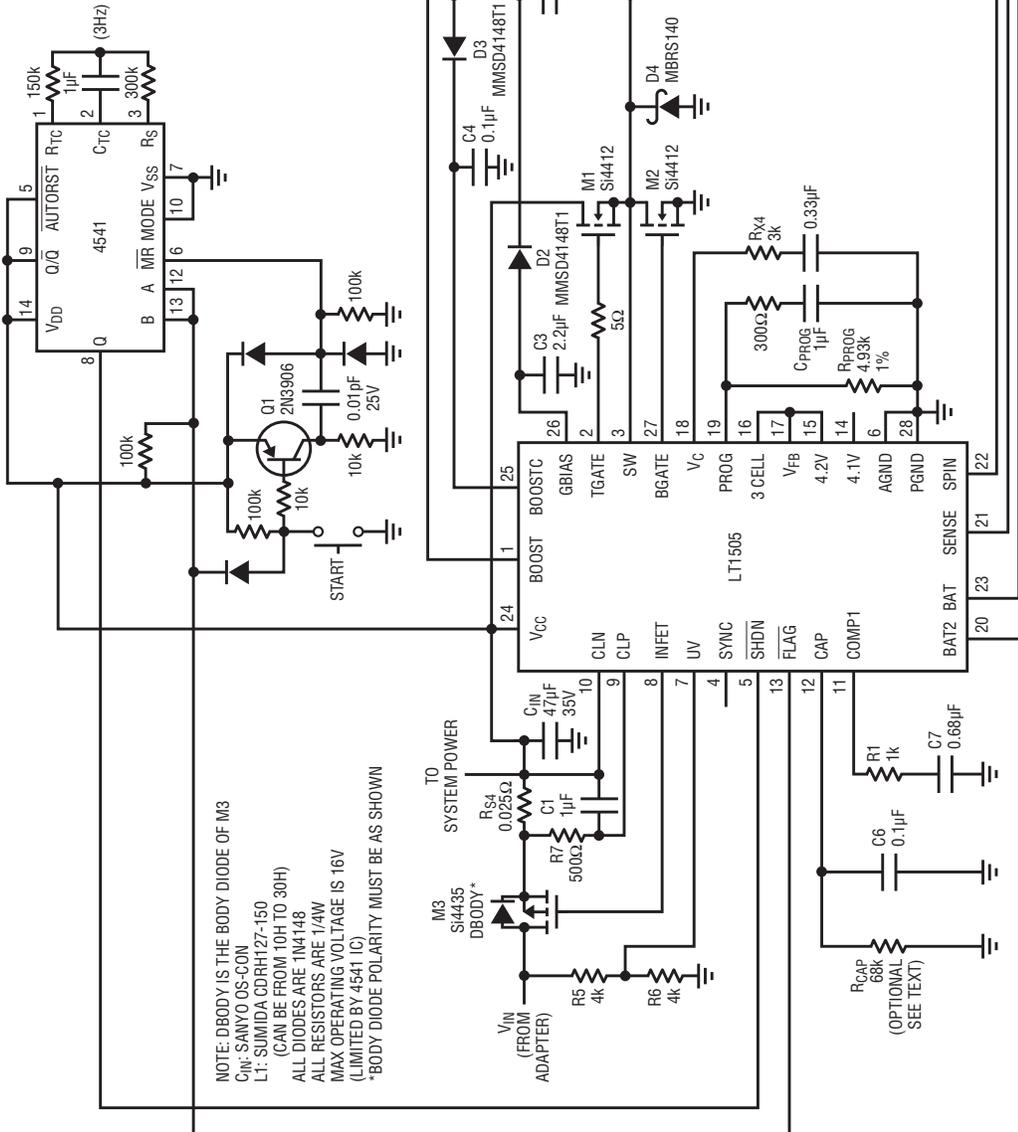

Figure 2. LT1505 Li-Ion Charger with Termination
The circuit in Figure 2 uses a CD4541 programmable timer IC controlled by the LT1505. When a low-true reset start pulse, created by the pulse circuit around Q1, is sensed by the MR(L) pin of the CD4541, the internal counters are reset and begin counting at a rate of 3Hz for 2^{16} (65,536) counts, or approximately three hours. If the FLAG pin of the LT1505 goes low, a new reset pulse is generated and the count is changed to 2^{13} (8192) counts or approximately 45 minutes.